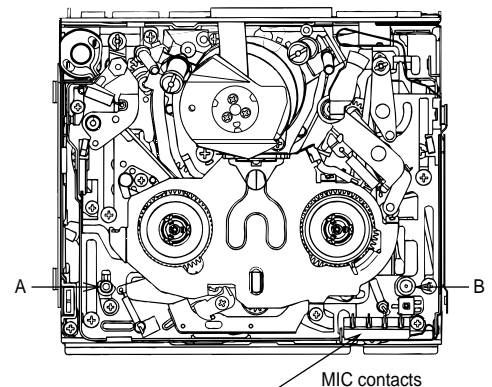

Fig. 2
(1) Remove the cassette controller assembly (refer to 9-2).
(2) Referring to 9-1, apply DC3V to the loading motor and put the system into playback mode.
(3) Taking adequate care so that the master plane does not contact drum, running parts (guide roller, etc.), or the MIC contacts. Fit the master plane holes to the 2 guides (A and B) in Fig. 2.